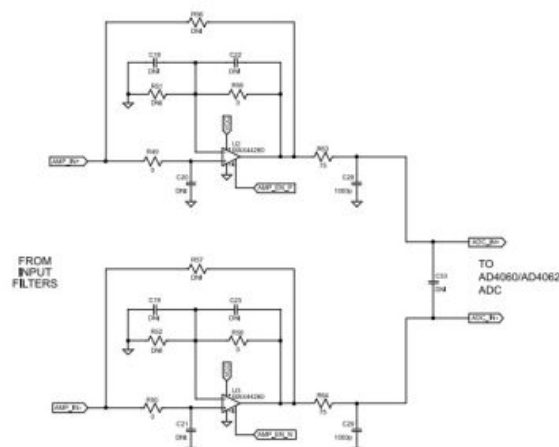

Figure 11. Default Amplifier Circuit Simplified Schematics
- MAX44260 operational amplifiers in 6-lead SC70 footprint configured as unity-gain buffers by default (see Figure 11)